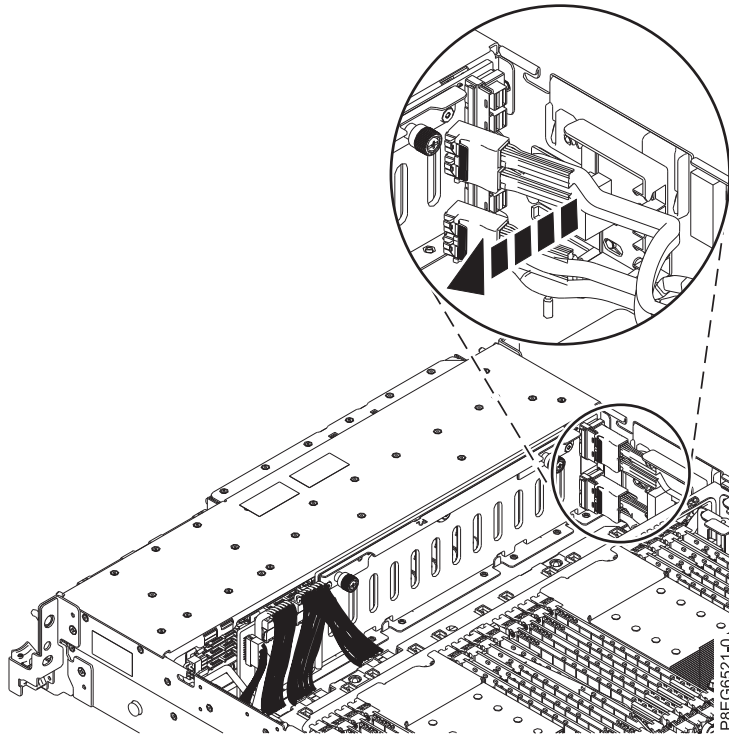

Figure 11. Removing the front SAS cable from the guide block
4. Pull the disconnected end of the cables out of the guide block on the side of the system chassis, as shown in Figure 11.